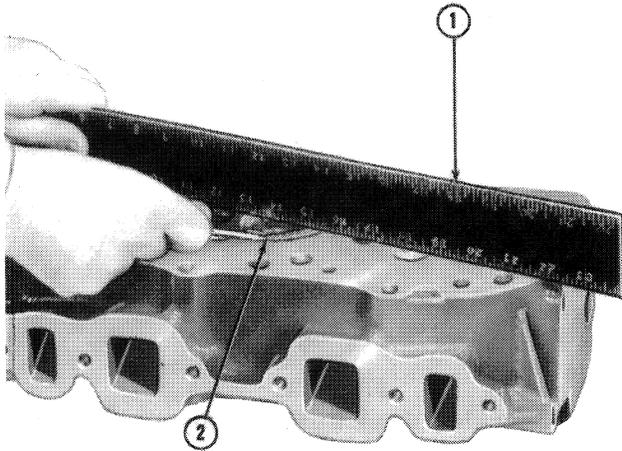

Figure 12
3. Use a straight edge to check the flatness of the cylinder head in all directions, Figure 12. For flatness requirement see "Specifications" — Chapter 3.